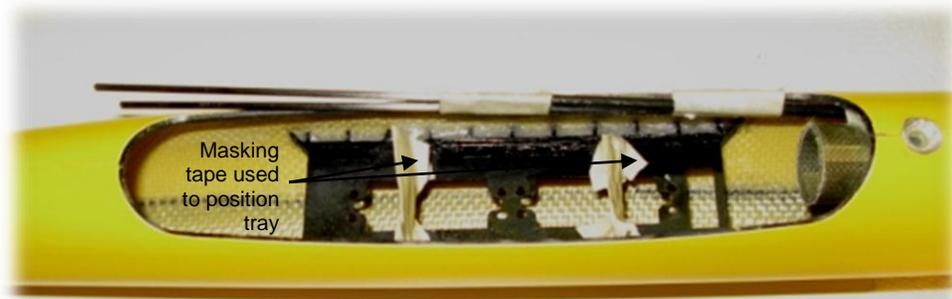

Figure 9: Shows tray in place in the fuselage
2. Test fit the servo tray with the mounting rails in its location inside the fuselage as shown in figure 9.